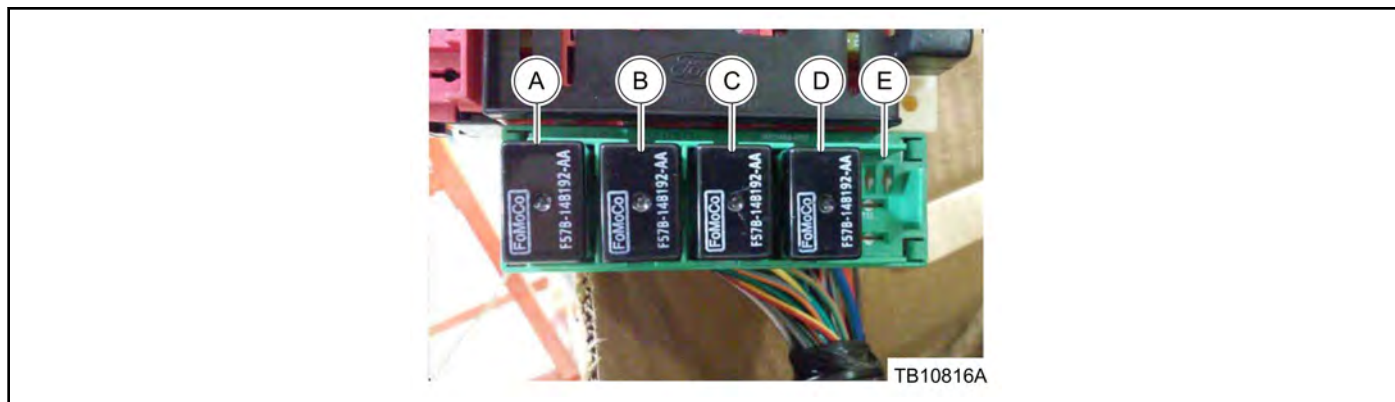

Figure 1 - Article 16-0014
2. Locate the central junction box (CJB) in the lower left side of dash. Remove and discard the following relays: (Figure 1)
3. Install new 4-terminal relays in the CJB in positions A, B, C and D. (Figure 1)